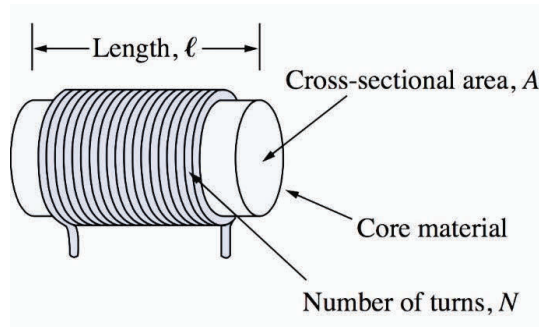

Figure 7.2
The importance of permeability is that it “amplifies” the magnetic field created by a current. For example, if we form a current-carrying conductor into a coil, as shown in Figure 7.2, there will be a magnetic (H) field generated inside the conductor loops. This will cause inductance in the conductor, the magnitude of which depends on the geometry of, and number of, the turns. If the core material inside the loops is air, the inductance will be relatively small. But if the core material has a high permeability (say an iron core) the magnetic field will be much larger, generating a much larger inductance in the coil. So, from an *electronic* standpoint, the magnitude of the inductance depends on the geometry of the coil. But the *physics* of the material inside that loop can have a dominating effect on that inductance.